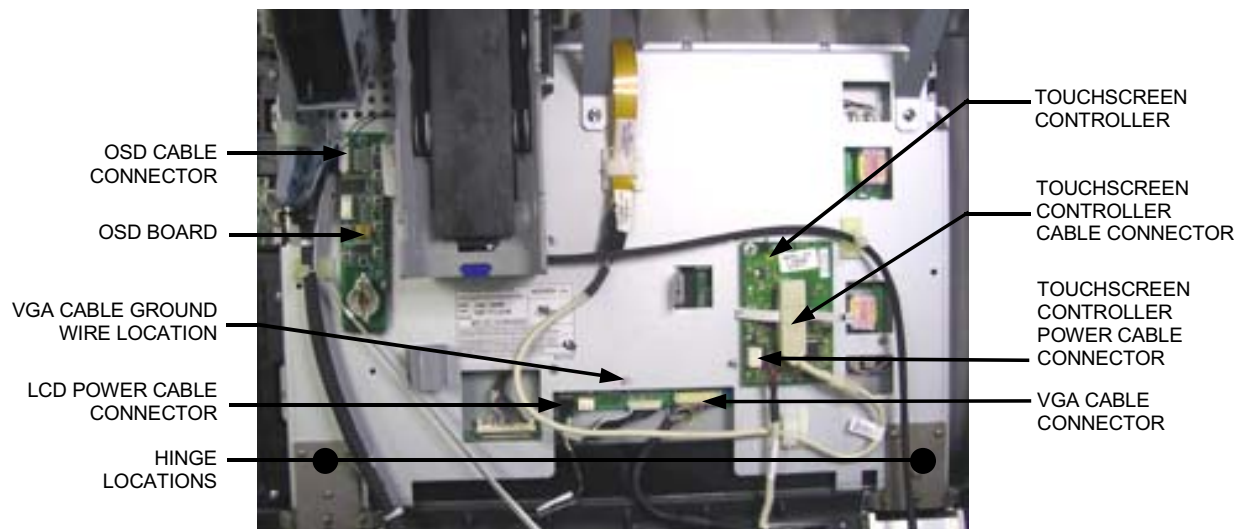

FIGURE 1 - MONITOR CONNECTIONS
3. Disconnect the LCD power cable connector, the VGA cable connector, and the touchscreen controller power cable connector (see Figure 1). Disconnect the VGA cable ground wire by removing the nut securing it to the rear of the monitor.
If you are replacing the monitor: Disconnect the OSD cable connector and then remove the OSD board from the Velcro securing it to the rear of the monitor (see Figure 1).